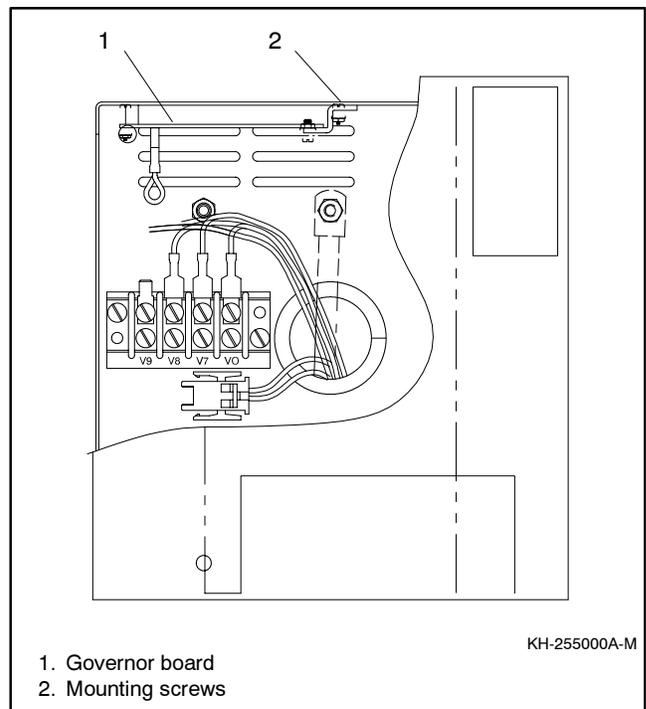

Figure 3 Governor Location (inside the generator set relay controller)
- Remove the cover from the generator set controller and locate the governor. See Figure 3.